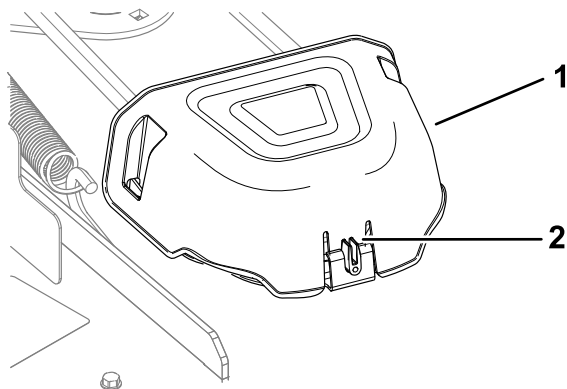

Figure 47
4. Push in the tab on the cover to remove the pulley covers (Figure 47).